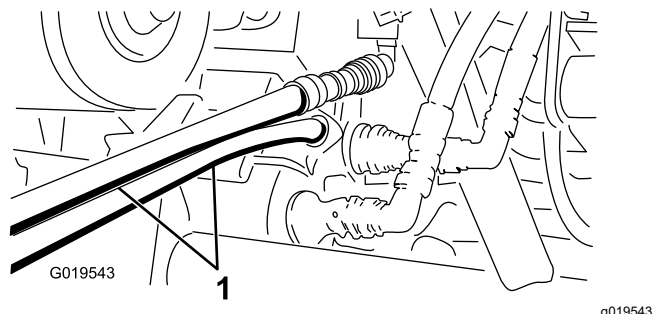

Figure 77
- On the other machine, connect the 2 hoses to the coupler still in the coupler bracket (connect the top hose to the top coupler and the bottom hose to the bottom coupler) (Figure 77).